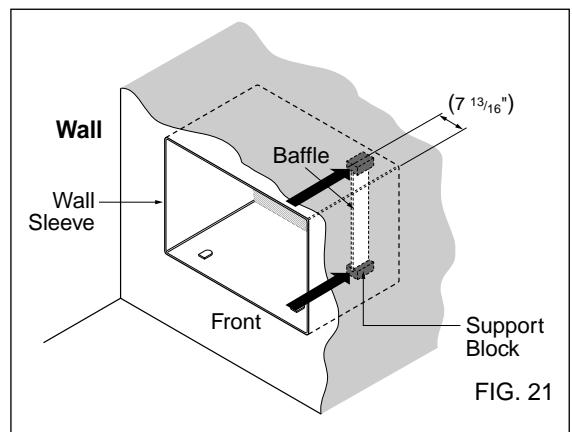

FIG. 21
- 6** Remove the backing from the support blocks and attach them to the inside of the wall sleeve as shown FIG 21. Slide the baffle into slots of the support blocks